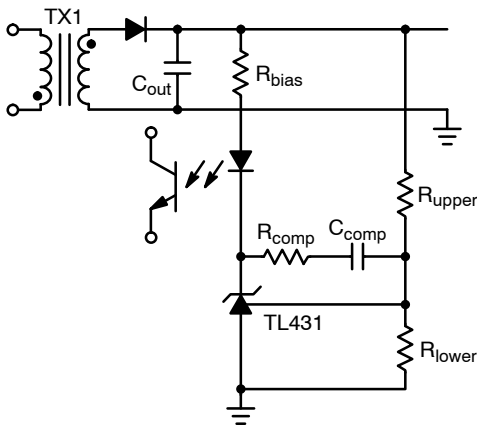
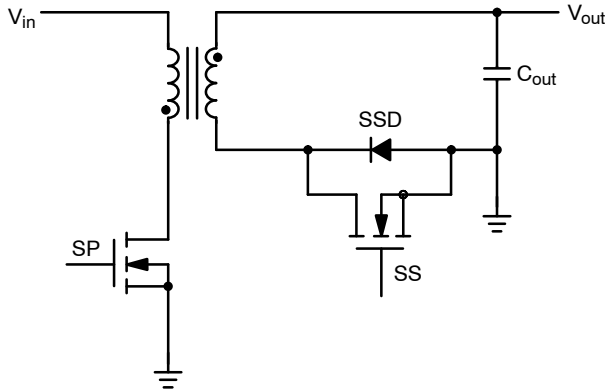
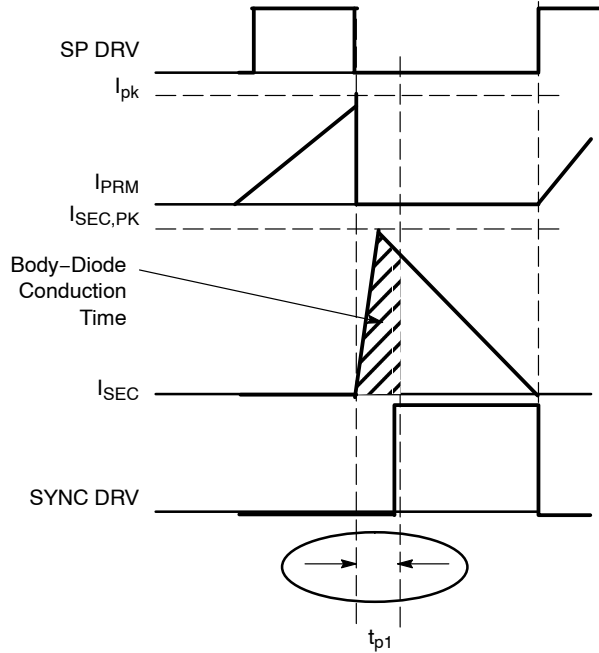

Figure 29. Typical Secondary Side Regulator
Figure 30. Synchronous Rectifier
Figure 31. Discontinuous Conduction Mode Waveforms
When the TL431 is being used to regulate the output of a power supply it is typically configured as shown in Figure 29. Where the output from the power supply is sensed and divided down with a resistive divider made up of R_{upper} and R_{lower} . The center point of the divider is connected to the reference pin of the NCP4302. The divider ratio scales down the output voltage to match the reference voltage, 2.5 V or 1.25 V.
The R_{bias} resistor in Figure 29 sets the current through the TL431, which must be greater than 0.5 mA to guarantee its performance under all operating conditions.
For a flyback converter to operate correctly with synchronous rectification there must be a delay between the time when the primary side MOSFET (SP Figure 30) and the secondary side Synchronous rectification MOSFETs (SS Figure 29) are conducting current. The NCP4302 can
The basic switching waveforms for the Flyback converter operating in DCM are shown in Figure 31. When the primary side MOSFET (SP in Figure 30) is turned-on current flows in the transformer primary and ramps up from zero to I_{peak} . When the primary side MOSFET (SP) turns-off, the polarity of the transformer reverses and the energy stored in the transformer is transferred to the secondary. When the energy transfer from the transformer primary to the transformer secondary begins, (prior to the secondary side synchronous MOSFET turning-on) the secondary current flows through the internal body diode synchronous rectifiers MOSFETs (SS) and (SSD). To minimize the losses in the SSD, the propagation delay (t_{p1}) must be low. Otherwise, there will be high losses associated with the secondary peak current and the SSD forward voltage drop (NCP4302 has a typical propagation delay of 50 ns).